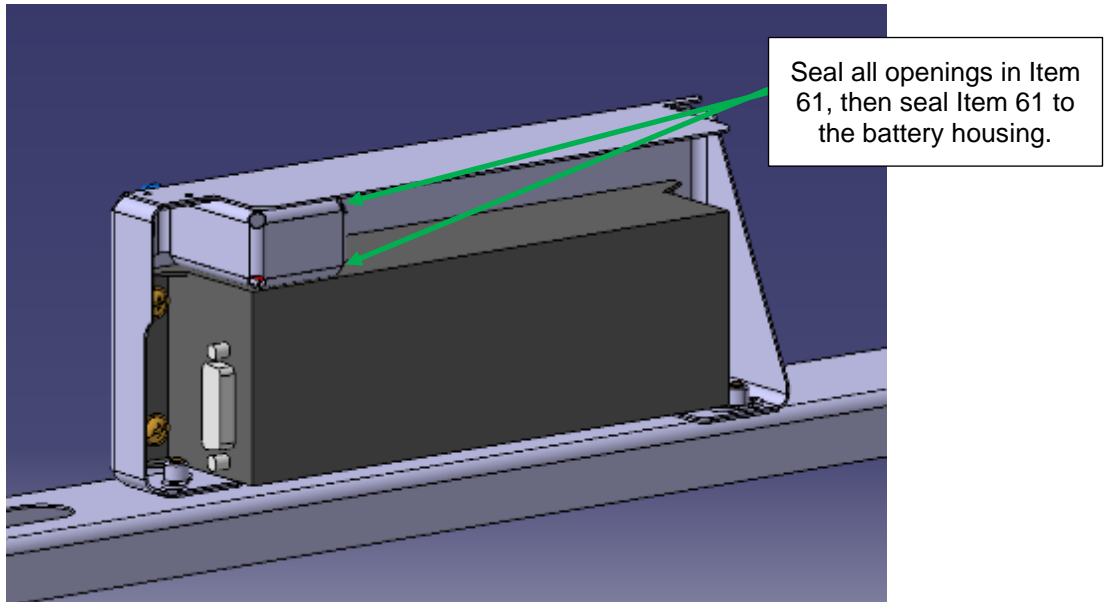

Figure 11 – Sealing of Battery Vent
14. Seal the battery vent housing (Item 61) using Item 1 of Table 8 as shown in Figure 11.